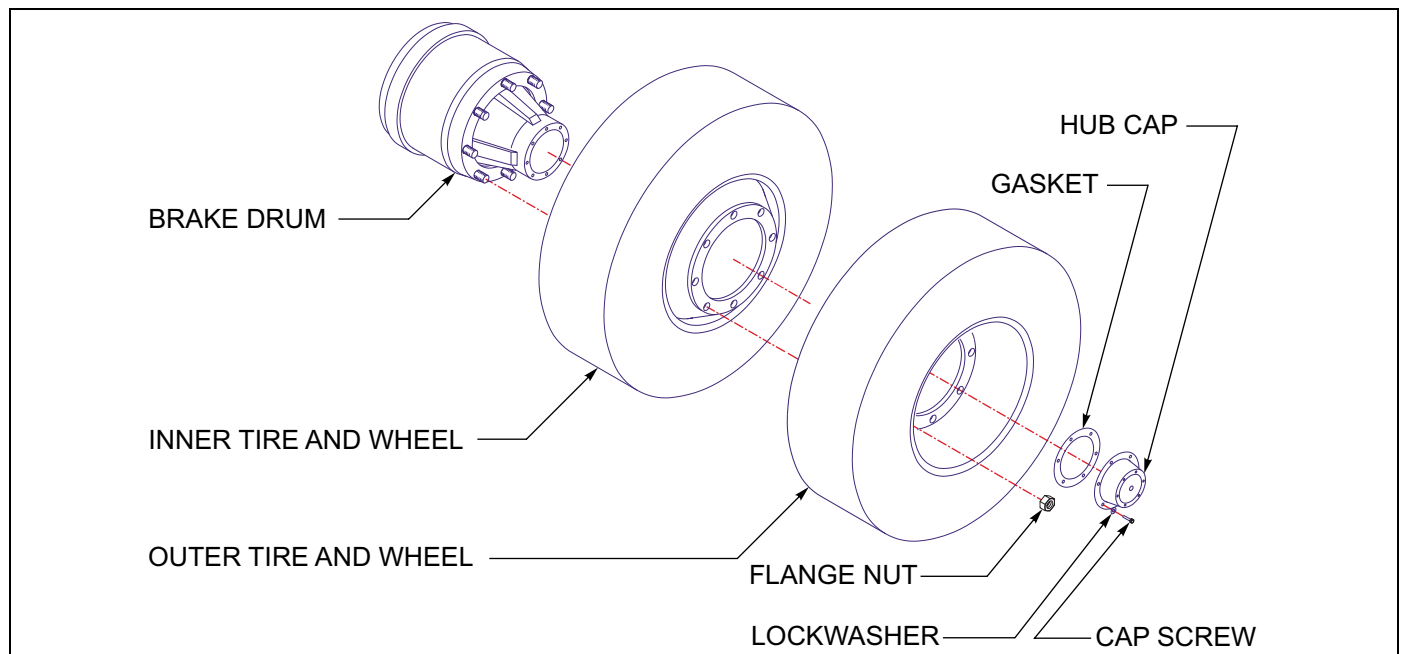

Figure 4-17: Mounting Tires and Wheels
1. Make sure that all mounting surfaces are clean and free of rust, dirt or paint. A wire brush may be used to clean these surfaces (See Figure 4-17.)